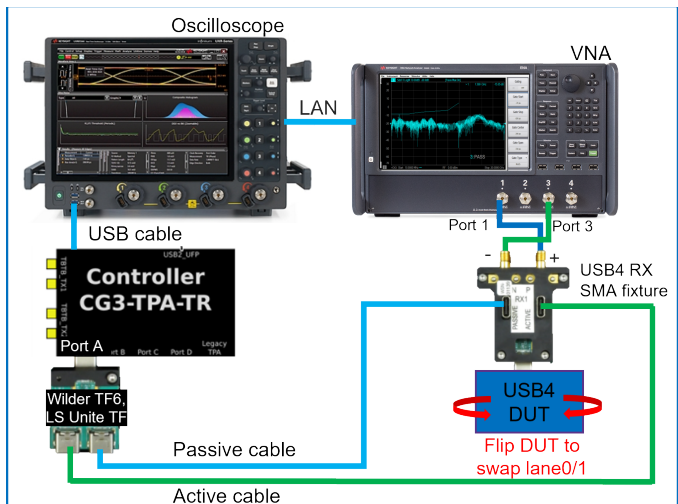

Figure 214 Tx Return loss test setup with Rx SMA test fixture
- 1 For the physical connections between the DUT & the Oscilloscope, see the connection diagrams in Figure 214 and Figure 215.